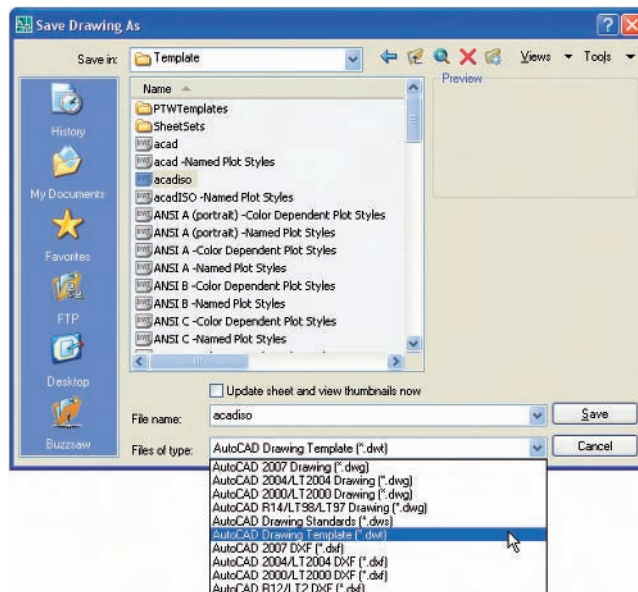

Fig. 4.22 Saving the template to the name **acadiso.dwt**
2. In the **Save Drawing As** dialog which comes on screen (Fig. 4.22), *click* the arrow to the right of the **Files of type** field and in the popup